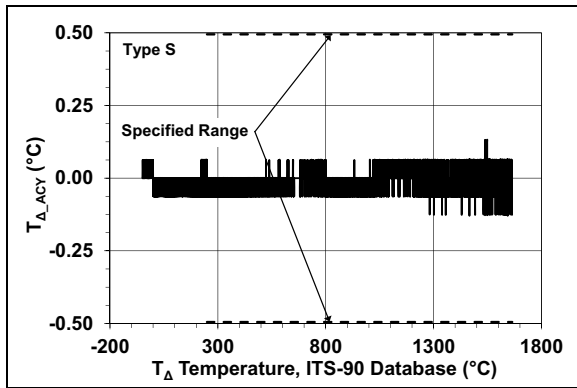

FIGURE 2-7: Typical Temperature Accuracy from NIST ITS-90 Database, Type S.
- Note 3:** The device measures temperature below the specified range, however, the sensitivity to changes in temperature reduces exponentially. Type R and S measure down to -50°C , or -0.226 mV_{EMF} and -0.235 mV_{EMF} , respectively. Type B measures down to 500°C or 1.242 mV_{EMF} (see Figures 2-7, 2-8, 2-10, 2-11, 2-14 and 2-17).